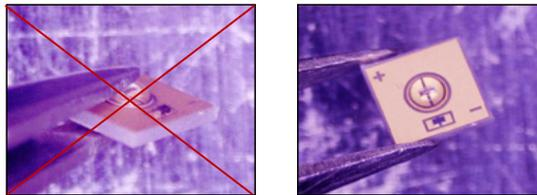

FIG 10. Incorrect handling (left) and correct handling (right) of UVC LED
- Bolb recommends holding the LED from the sidewalls (see Figure 10.)